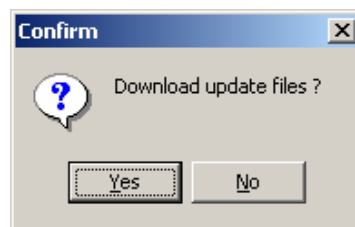

Figure 1.55 File download confirmation prompt
2. A message prompt will appear asking for download confirmation as in Figure 1.55. Click *Yes* to download these files.